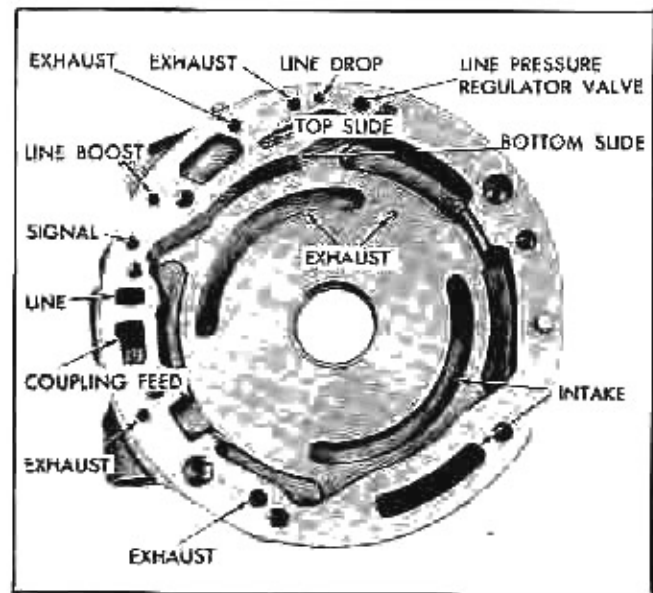
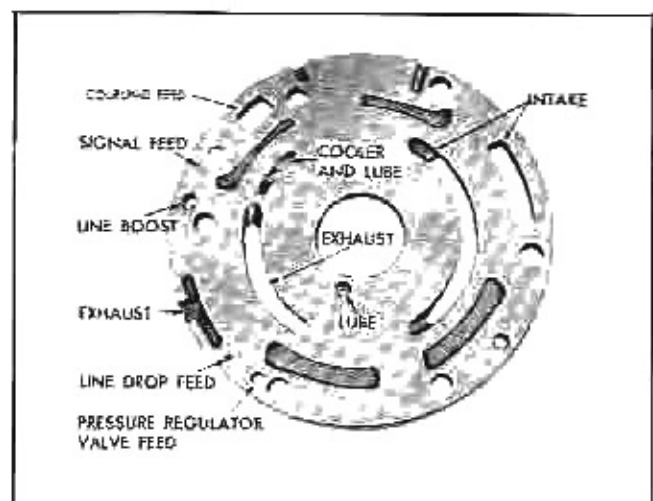

Fig. 73 Pump Body Oil Passages
Fig. 74 Pump Cover Oil Passages
1. Inspect all oil passages in the pump body (Fig. 73) and cover (Fig. 74) for dirt or restrictions, using tag wire and compressed air.
3. Inspect (11) pump vanes for excessive wear at